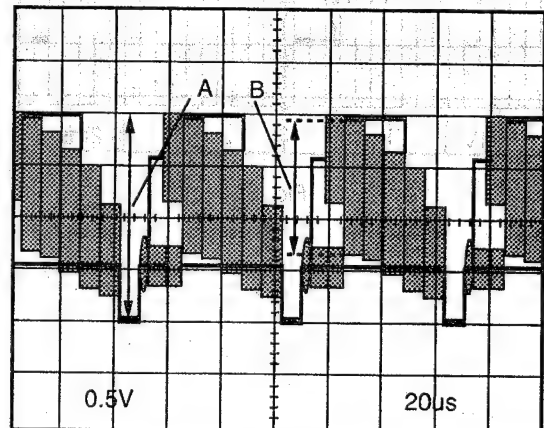

Fig. E8
3. Adjust R3041 (PB LEVEL) so that the A level in Fig. E8 of Page 2-35 is 2.00 ± 0.15 Vp-p.
5. Playback the recording and confirm that the A level in Fig. E8 of Page 2-35 is 2.00 ± 0.15 Vp-p.